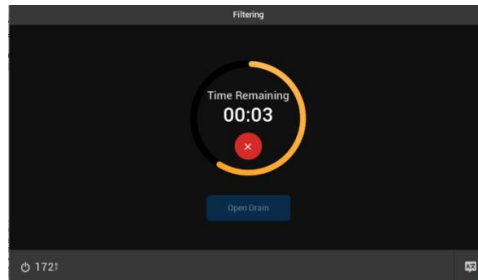

Figure 71 - Cold Soak Time Remaining
- Fill the appliance with water and click the **Cold Soak** button on **Figure 1 - Home Screen**. Heat will be applied to the vat, warming the water. This control will detect the presence of water by temperatures not rising above the boiling point of water; 212°F (100°C). The display will change to **Figure 71**.